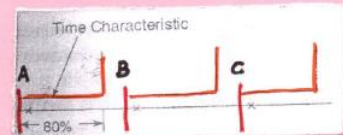

Fig 2.2. Instantaneous overcurrent Protection
- * As seen in the figure 2.2, the operating-time is kept the same for all the relays.